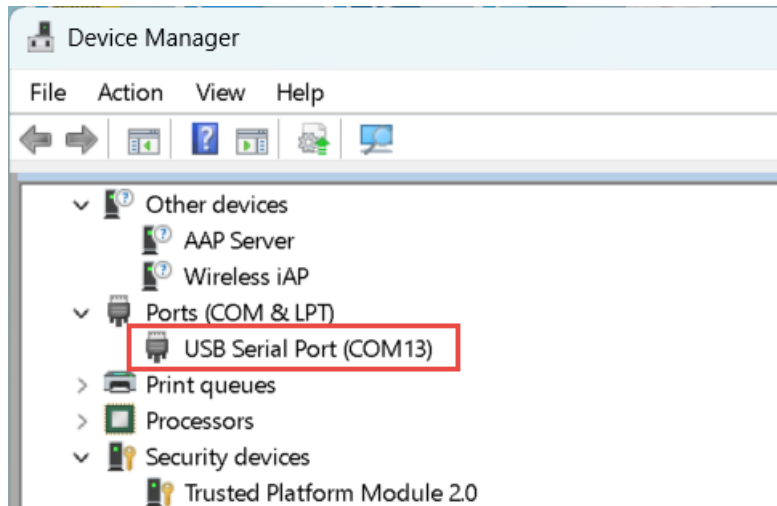

Figure 1-8 Device Manager
1. Open the **Device Manager** on your windows and check the **Port(COM&LPT)** tab. User may find the **USB Serial Port(COM X)** on the list. See **Figure 1-8**, the COM number of this Host is COM13. *Note that the “COM13” on the Serial Line column needs to be modified according to the actual com port on the user's computer.*